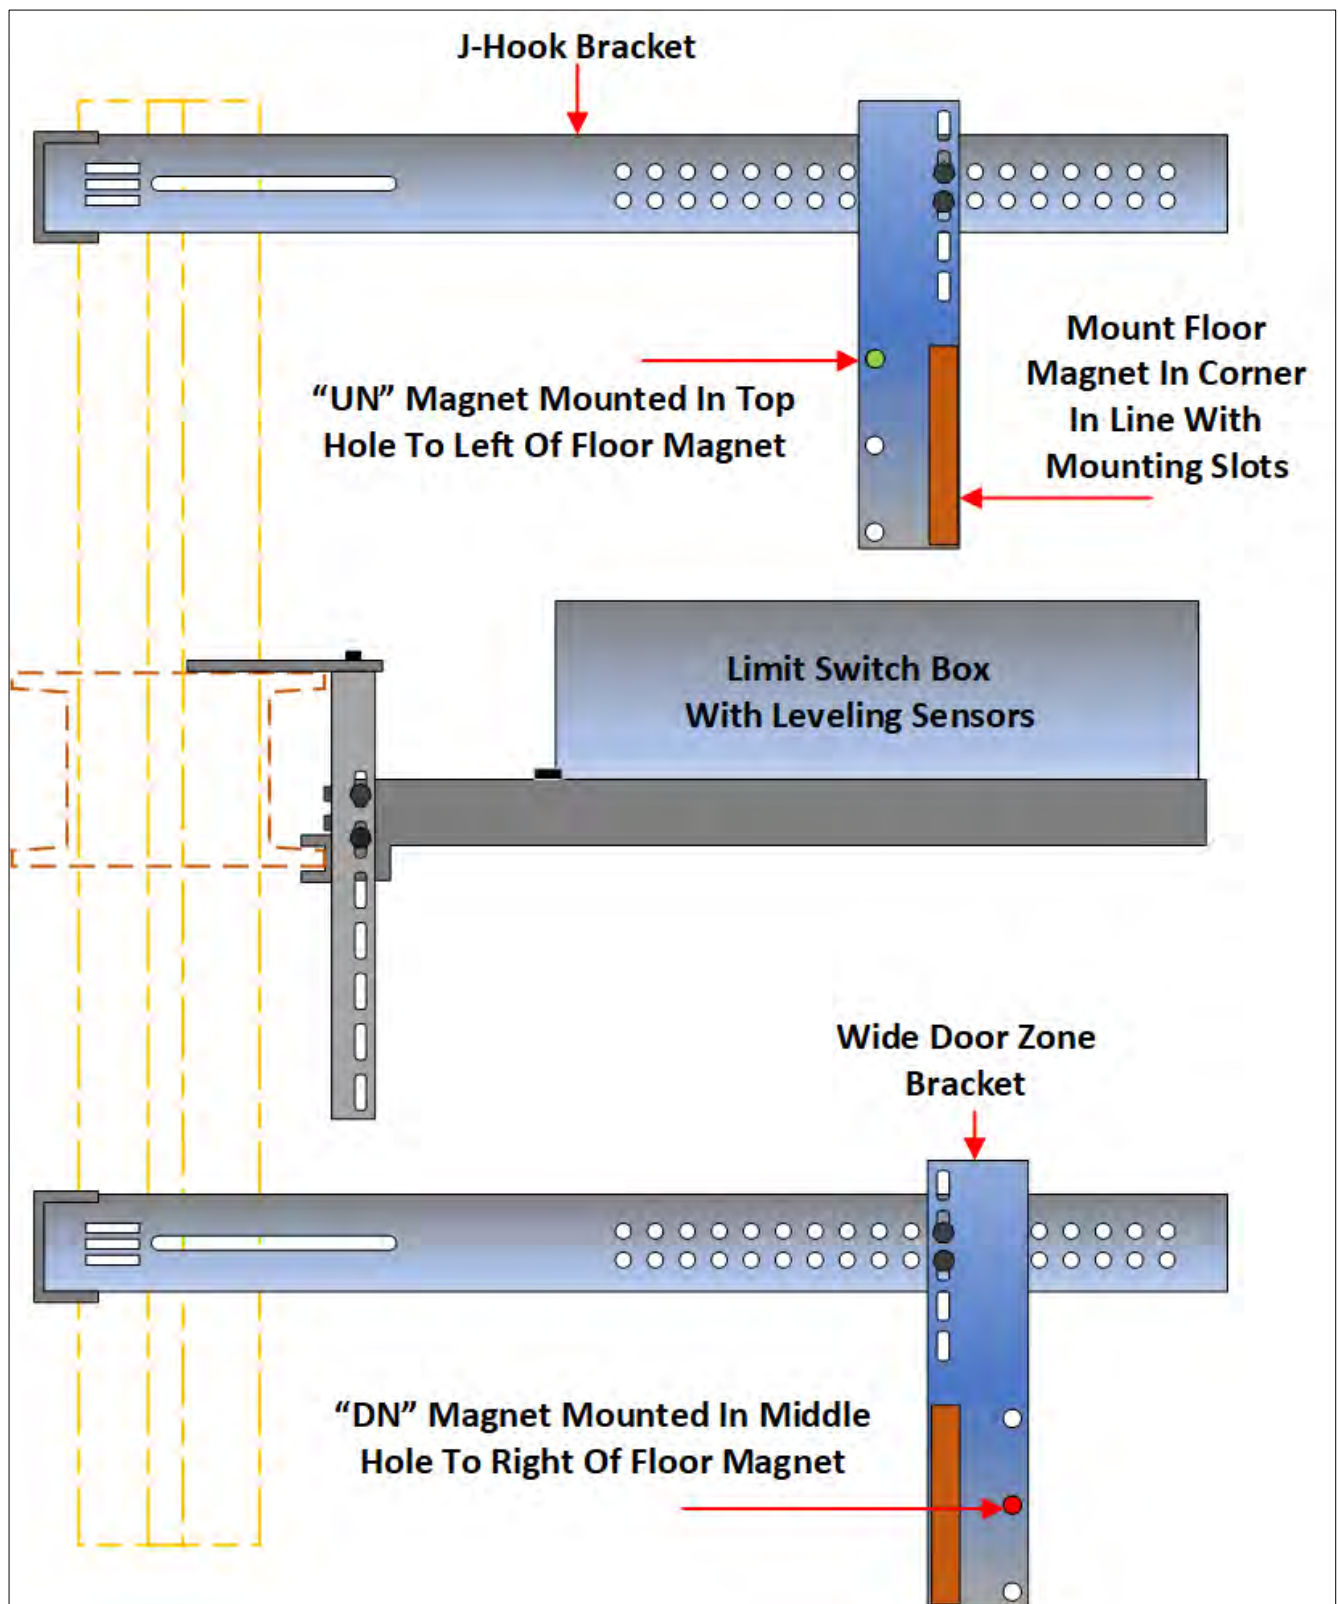

Figure 2-30: Tapeless Selector 5 Side View.
- Mount the wide metal door zone brackets to the J-hook brackets for the top and bottom terminal floors. See Figure 2-30.
- A J-hook bracket and **GREEN** actuating magnet, for the UN magnetic switch, should be positioned to activate the switch when the car is 2 inches above the top terminal floor level. The UN actuating magnet should be mounted in the top hole of the wide door zone bracket at the top terminal landing. See Figure 2-30.
- A J-hook bracket and **RED** actuating magnet, for the DN magnetic switch, should be positioned to activate the switch when the car is 2 inches below the bottom terminal landing. The DN actuating magnet should be mounted in the middle hole of the wide door zone bracket at the bottom terminal landing. See Figure 2-30.